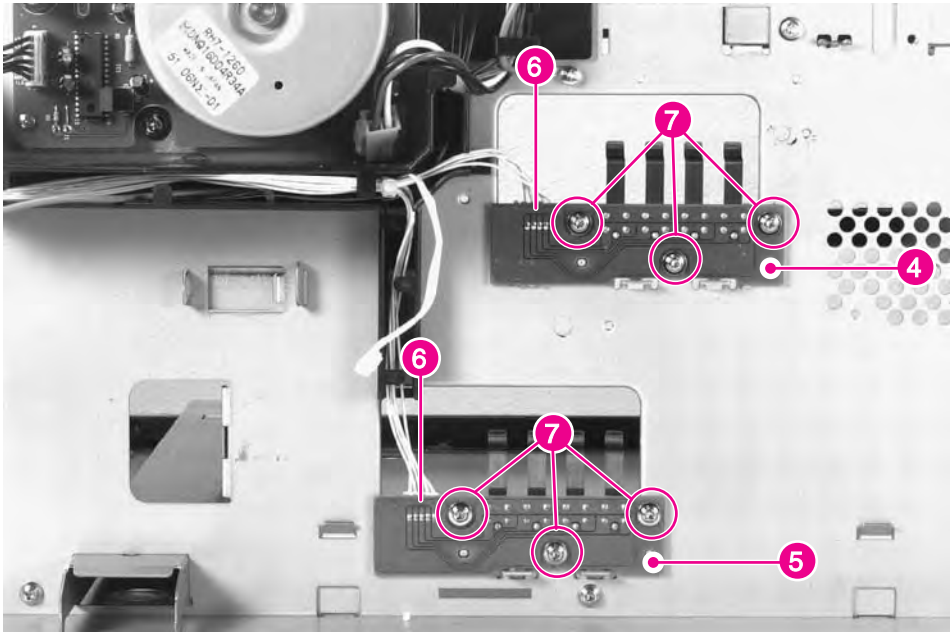

Figure 6-47 Paper Size PCA (2 of 3)
The Paper Size PCA for Tray 2 (figure 6-47, callout 4) is identical to the PCA for Tray 3 (figure 6-47, callout 5). The removal procedure for both PCAs is the same.
- 3 Unplug the connector (figure 6-47, callout 6), remove 3 screws (figure 6-47, callout 7), and remove the PCA and actuating fingers.